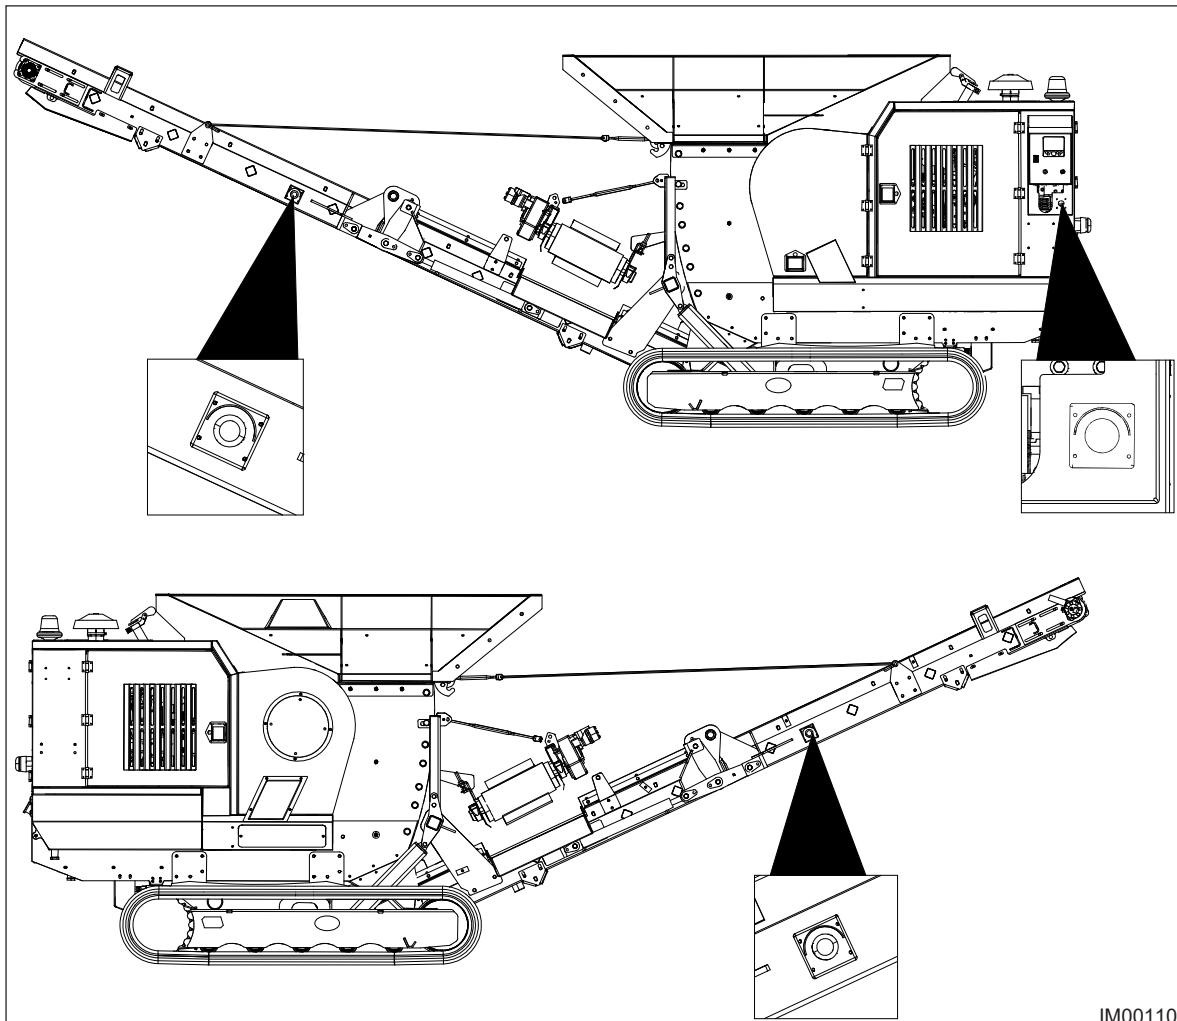

Fig: 9.5 - Emergency Stop Locations
2. Engage (push in) the nearest Emergency Stop button (Fig: 9.5).